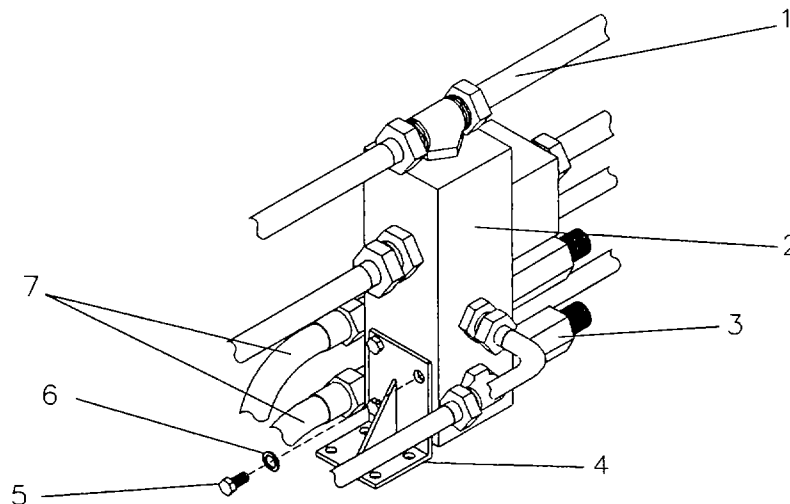

Figure 5-5. Hydraulic Control Manifold.
a. Removal. Refer to figure 5-5.
- 1) Disconnect the seven hydraulic lines (1) and two hoses (7) from the hydraulic control manifold (2).
- 2) Remove and retain relief valves (3)
- 3) Remove the screws (5) and lockwashers (6) holding hydraulic control manifold (2) to mounting bracket (4).
- 4) Remove hydraulic control manifold (2) from mounting bracket (4).
b Installation. Refer to figure 5-5